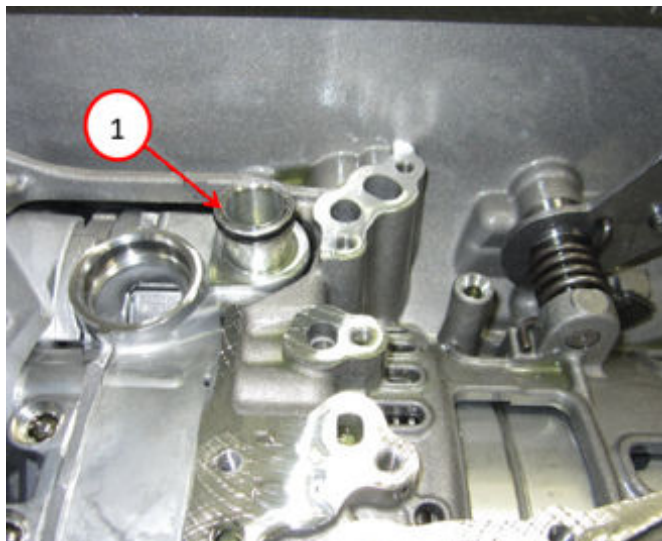

Fig. 12
20. Remove the fluid port from the transmission or valve body assembly (the fluid port may stick in the valve body upon removal) Fig. 12.